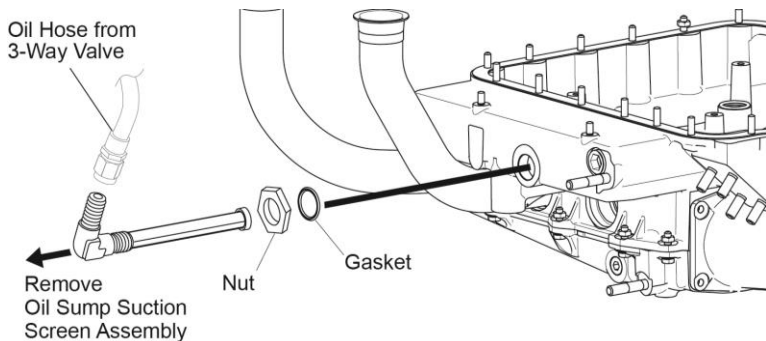

Figure 1
3. Disconnect the oil hose (Figure 1) from the oil sump suction screen assembly on the left side of the oil sump. Discard the oil hose.